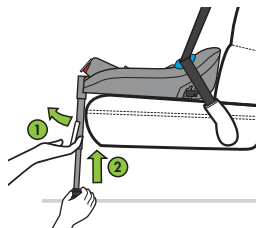

Figure 68
Adjust Load Leg to shortest position by pulling out and holding bottom of Load Leg Adjustment Handle (1) while pushing up on bottom of Load Leg (2), as shown in **Figure 68**.